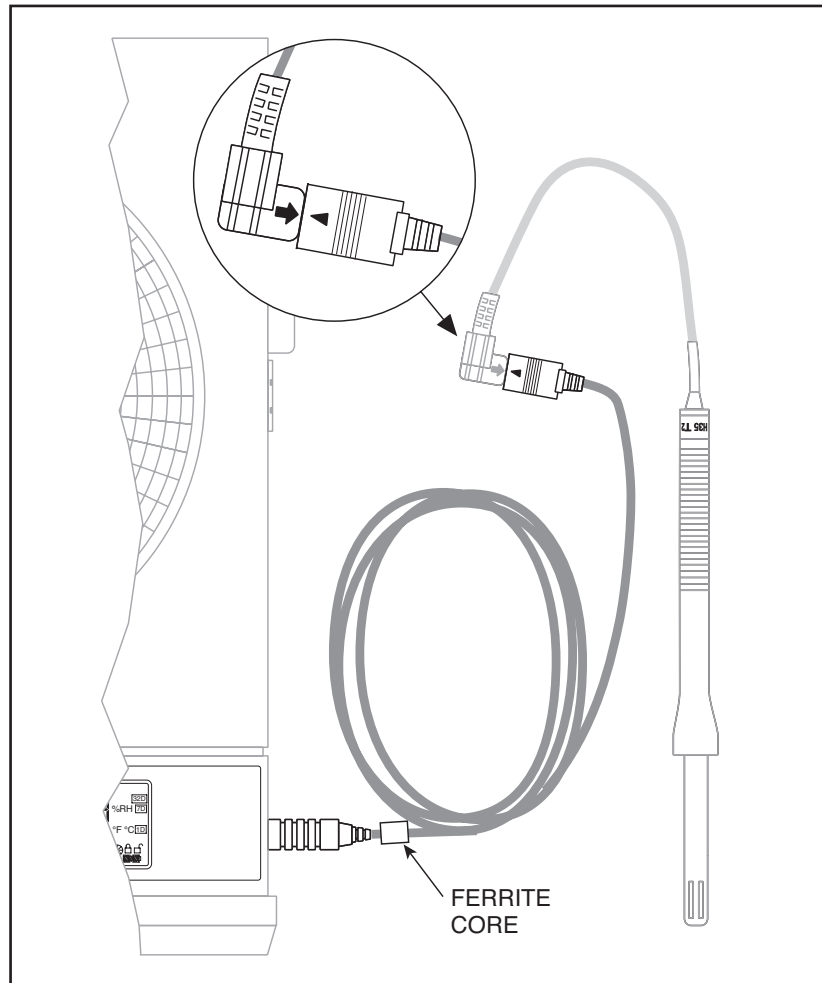

Figure 2-16. Using the Remote Sensor Cable
1. Connect the end of the cable with the arrow to the short cable on the sensor. Line up the two arrows as shown in Figure 2-16 before mating the two cables.